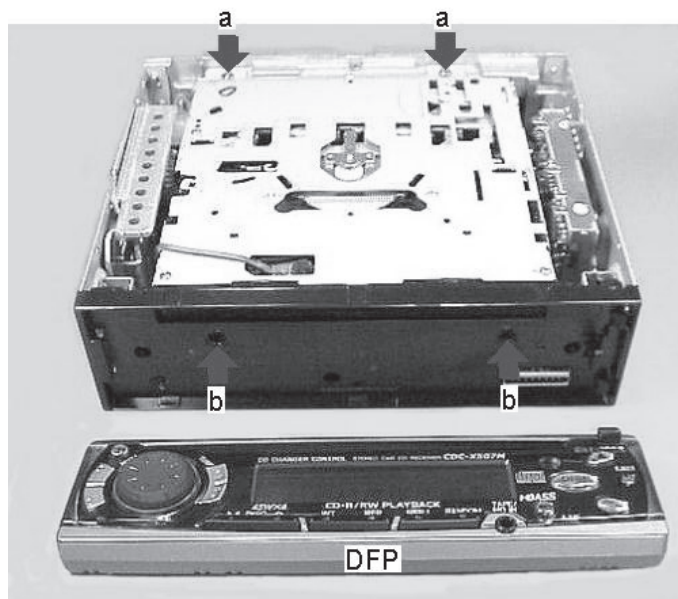

Fig. 1
- 3) Remove the four screws (indicated by the arrows) from the CD mechanism. (Fig. 1)